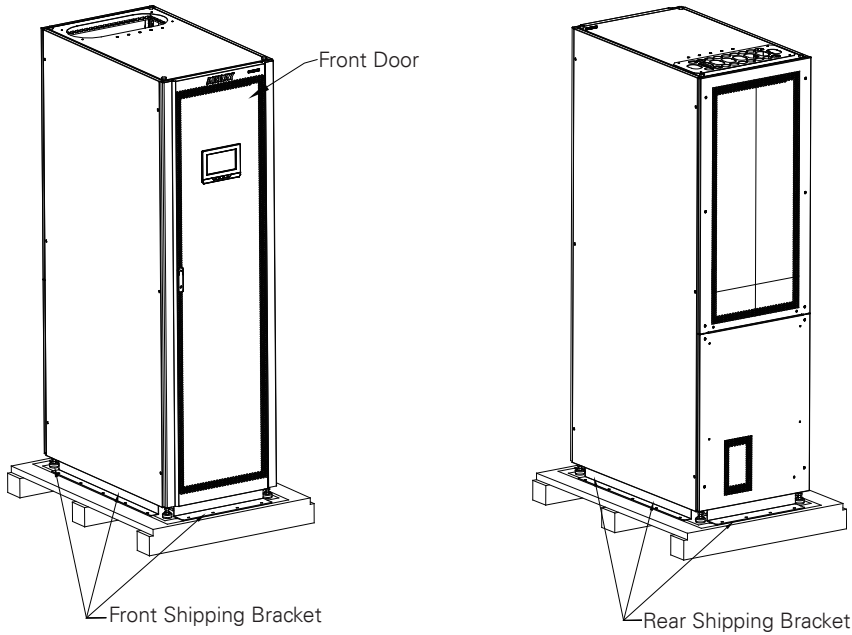

Figure 3-4: Remove all Fixed Shipping Brackets and Screw Fixed on the Pallet
2. Remove four bolts securing the front / rear / left / right shipping bracket to the cabinet and four bolts securing the bracket to the pallet (see Figure 3-4). If installing the cabinet permanently, retain the shipping bracket and securing hardware for later use.
10. Using the retained hardware, reinstall the shipping brackets removed in Step 2 and Step 5 to the front and rear of the UPS cabinet with the angle facing outward (see Figure 3-4 and Figure 3-5).